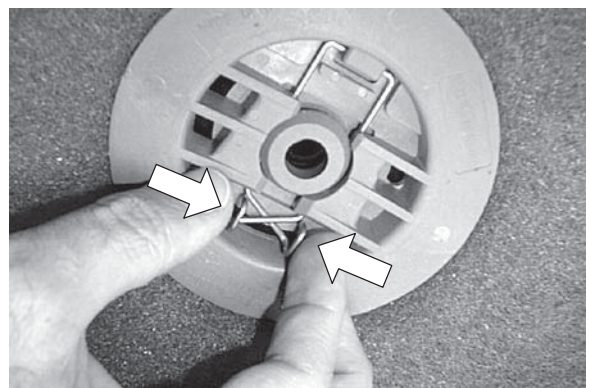

FIG. 6
- Remove the plastic centerlock from pad driver by squeezing the retainer clip on the centerlock (Figure 6).